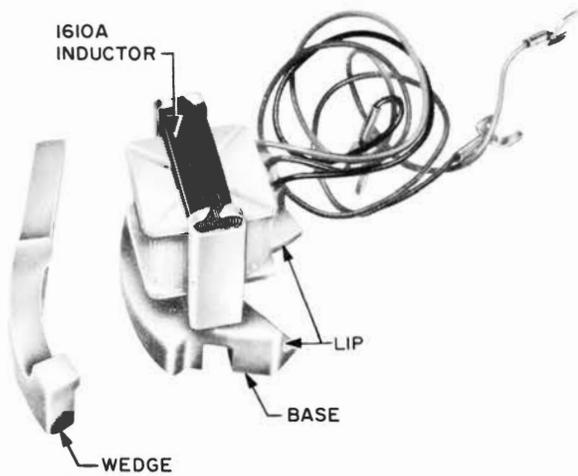

Fig. 3 - 1610A Inductor
2.05 Where no ringer is used and tip-party identification is required, a 1610A inductor shall be installed in the Princess set as shown in Fig. 3, 4, and 5. The inductor is ordered separately and includes the wedge as shown in Fig. 3. The procedure for installing the inductor is as follows:
7. Replace dial and housing (Fig. 3, 4, and 5).